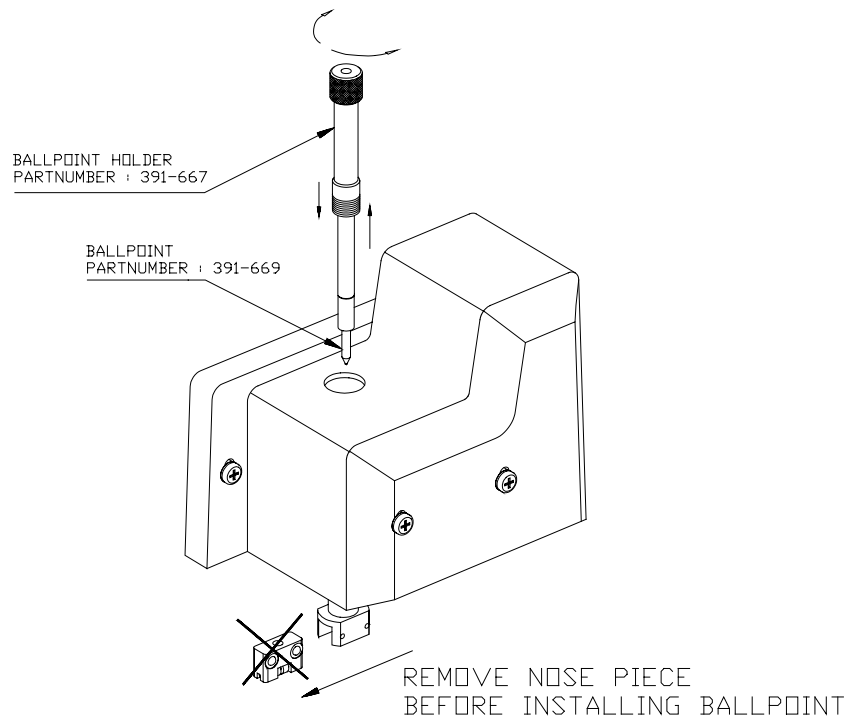

FIGURE 1-14:
2. Remove the nose piece (refer to Fig 1-14).
3. Insert the ballpoint pen holder into the tool shaft as shown in Figure 1-14.
4. Install the ballpoint pen as shown in Figure 1-14. Insert the ball point pen holder as far as possible by turning it clockwise while holding the nose piece holder in place with the other hand.
2. Remove the nose piece (refer to Fig 1-14)